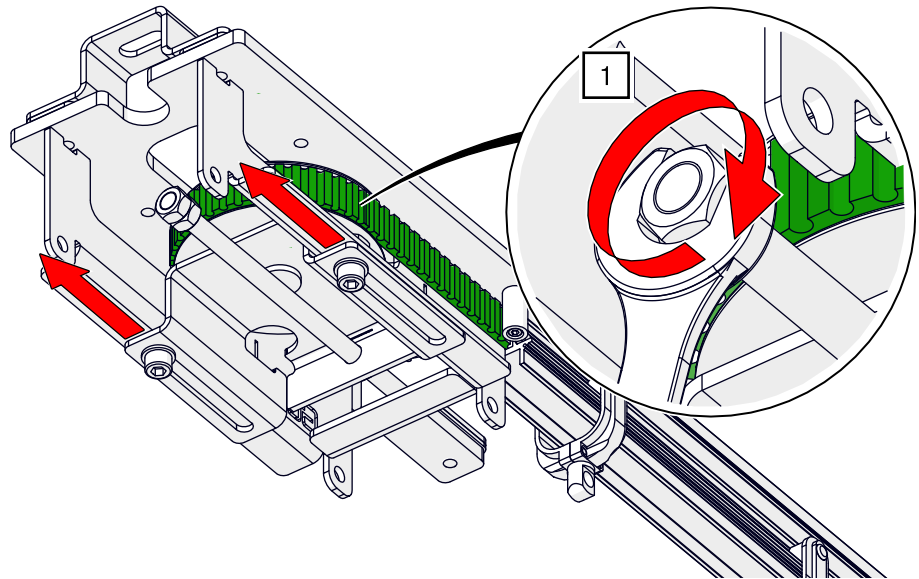

Fig. 87: Timing belt installation – Tension timing belt on the deflection unit
1. Move the carriage by turning the threaded screw with an open-ended spanner AF 19 (see Fig. 87).